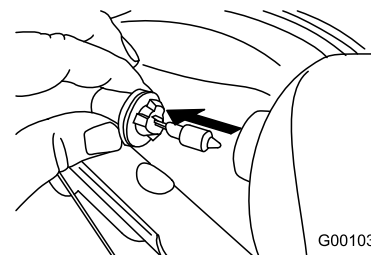

Figure 56
- Remove the bulb straight out from the back of the headlight (Figure 56).